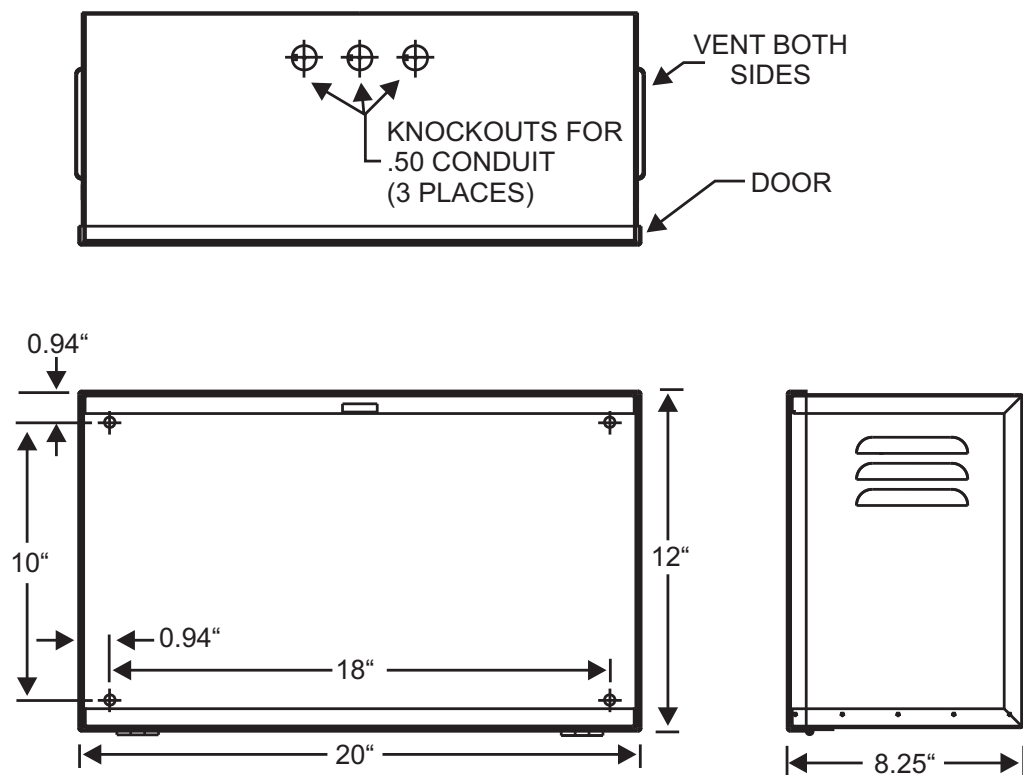

Figure 2-48. Mounting Dimensions for Large Capacity Battery Box
5. Mark and pre-drill holes for four mounting bolts using the dimensions shown in Figure 2-48. Be certain to allow room for ventilation on both sides of the cabinet.